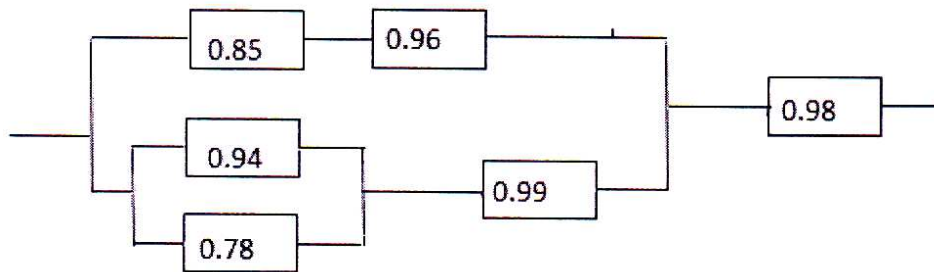

fig.2
- Q4) a)** Find the reliability of the following structure shown in fig.2. [8]